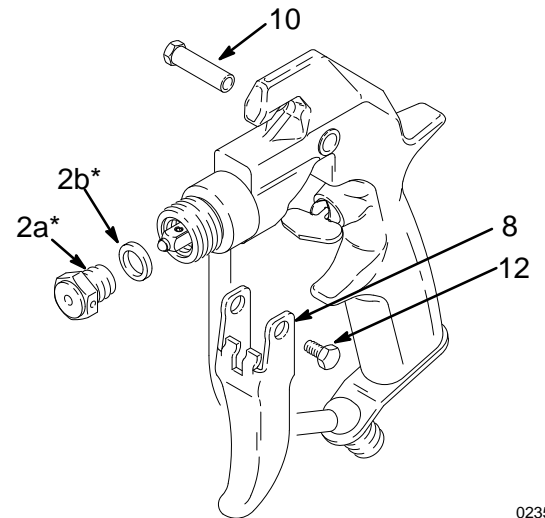

Fig. 6
3. Remove the diffuser/seat (2a*) and gasket (2b*). Remove the screw (12), pivot pin (10), and trigger (8). See Fig. 6.